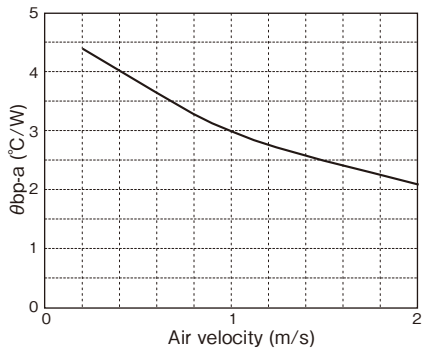

Fig.1-3 Thermal resistance at Baseplate-Air vs Air velocity (typical value)
Forced cooling to power module improve radiation capability more than convection cooling. Figure 1-3 indicates thermal resistance value between baseplate and air at standard vertical mounting. For details on standard vertical mounting, refer to "PAQ-S48 Series Instruction Manual" Figure 1-4 to 1-8 indicates power dissipation (Pd) of each models at following condition.
Air Velocity is as shown in Fig.1-3.
- 1) Data shown in Fig.1-3 to 1-8 is the typical value and it changes depending on measurement condition. Recommend to design with sufficient margin against calculation value.